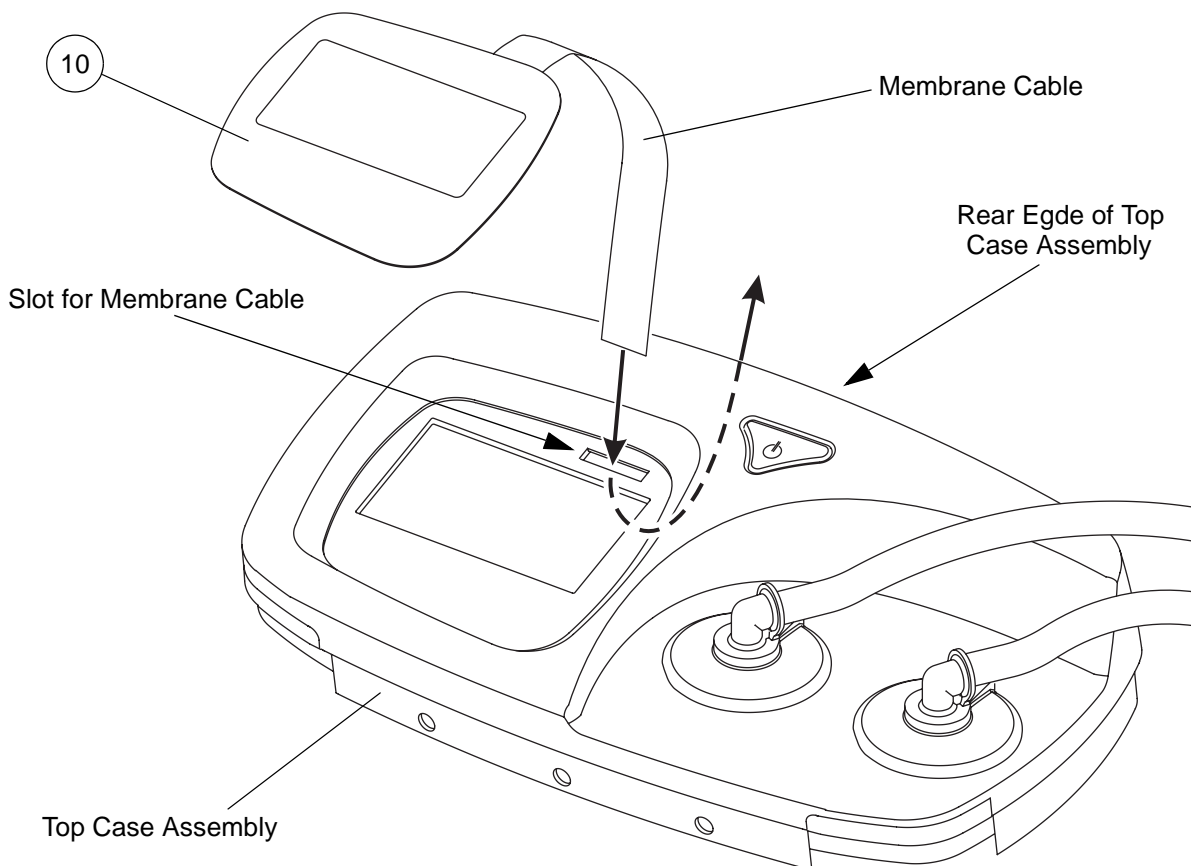

Figure 56 - Replacing the Membrane Label without removing the Control PCB Assembly from the Top Case Assembly
Note: Remove the self-adhesive membrane label (Fig 56, Item 10) from the top case assembly, and withdraw the membrane cable out through the slot in the top case assembly.
- 31.3 Remove the backing paper from the new self-adhesive membrane label (Fig 56, Item 10).
31.4.1 Pass the end of the membrane cable through the slot in the top case assembly and then towards the rear edge of the top case assembly (refer to Figure 56).